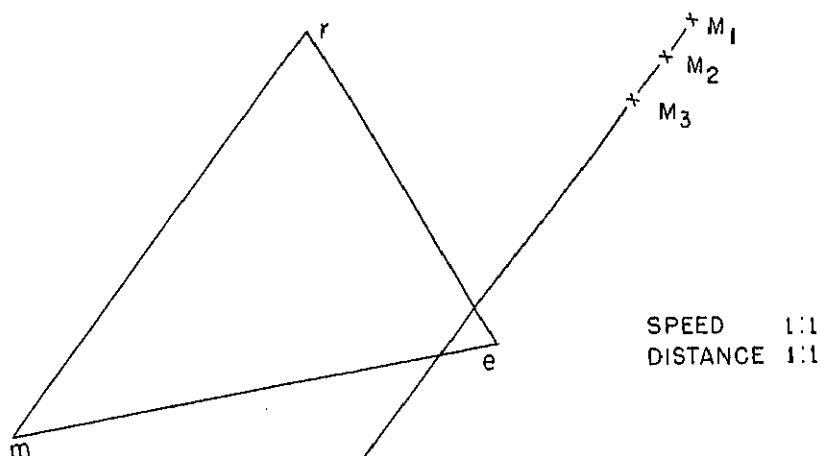

Figure 4C.--Using the relative plot and vector diagram.
4-33. Figure 4C shows a plot made aboard your ship of another ship tracked by radar. Assume the distance from M_1 to M_3 in figure 4C to be 1600 yards. If the contact traveled that distance in 6 minutes, what is its relative speed?
4-34. When the contact in figure 4C is at CPA, the bearing from you will be approximately
4-35. In figure 4C, own ship's course and speed are indicated by the direction and length of line
Information for items 4-36 and 4-37. The OOD wishes to change course to the right so that the contact in figure 4C will have a minimum range of 2,000 yards at CPA. Own speed will remain the same. The contact does not change course or speed.